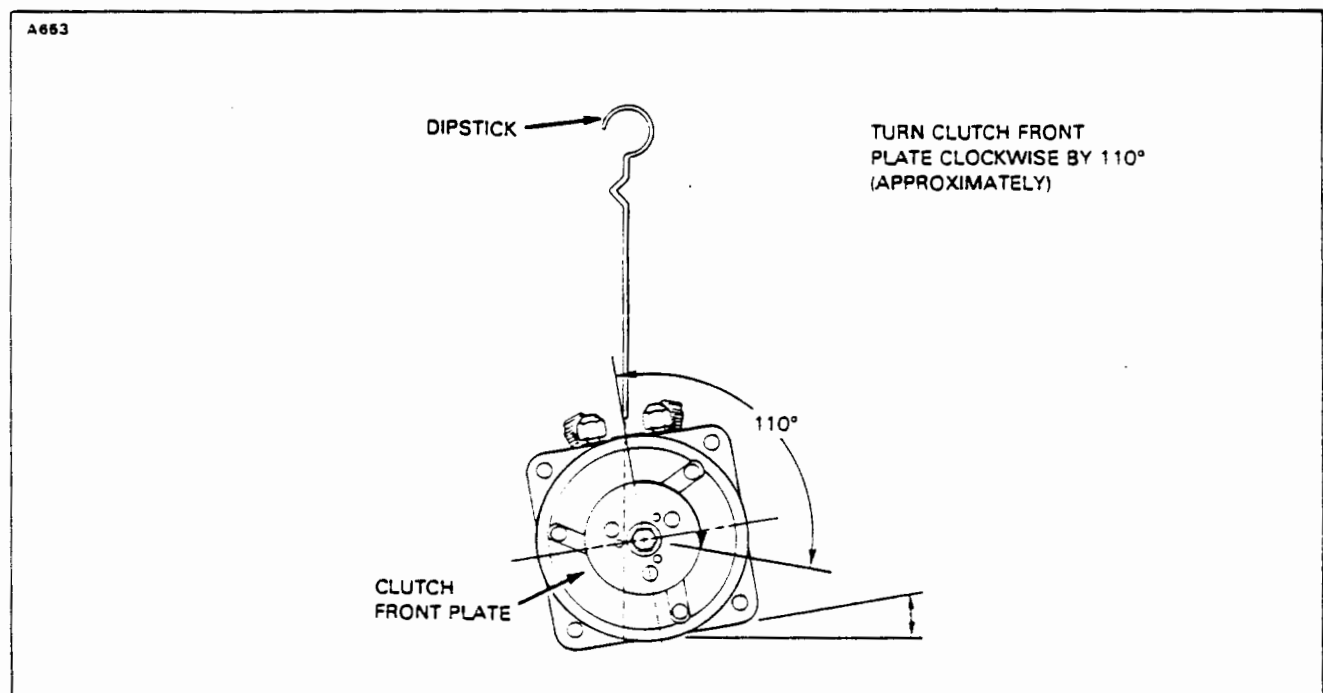

Figure 21-32. Rotation of Clutch Front Plate (Sankyo Compressor Oil Check)
5. Rotate the clutch front plate clockwise by approximately 110°. (Refer to Figure 21-32.)